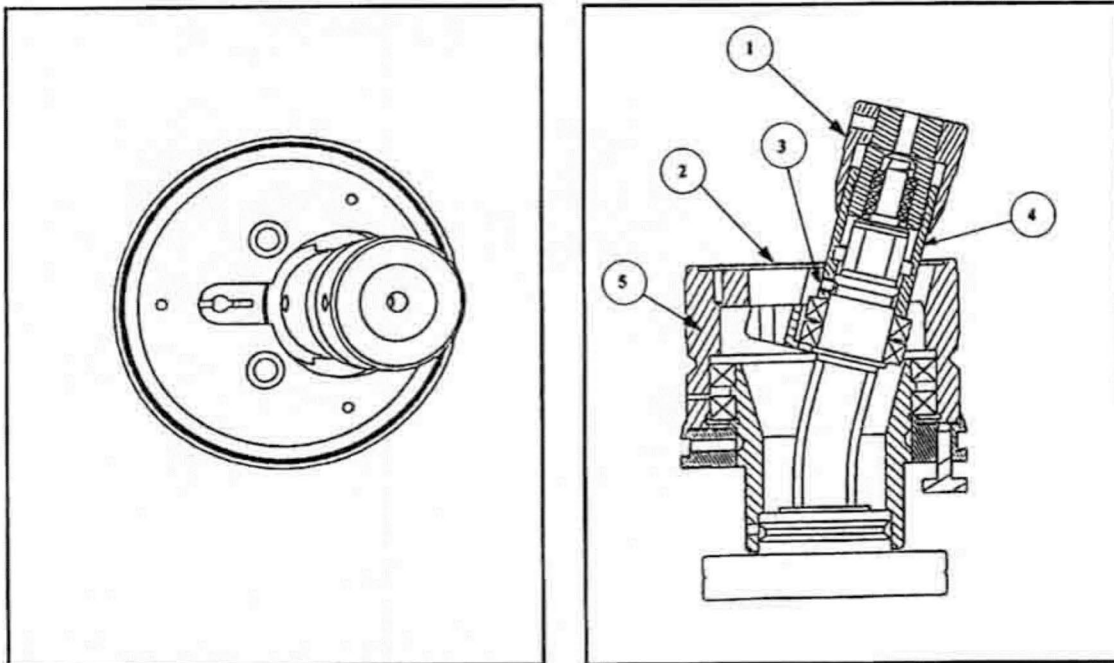

Figure 3 - Top view and cross section of RD2 rotary drive
- a. Loosen the two set screw securing the linear motion thimble (item 1 in figure 3) and remove the thimble.
Numbers in () refer to item numbers in figure 3.